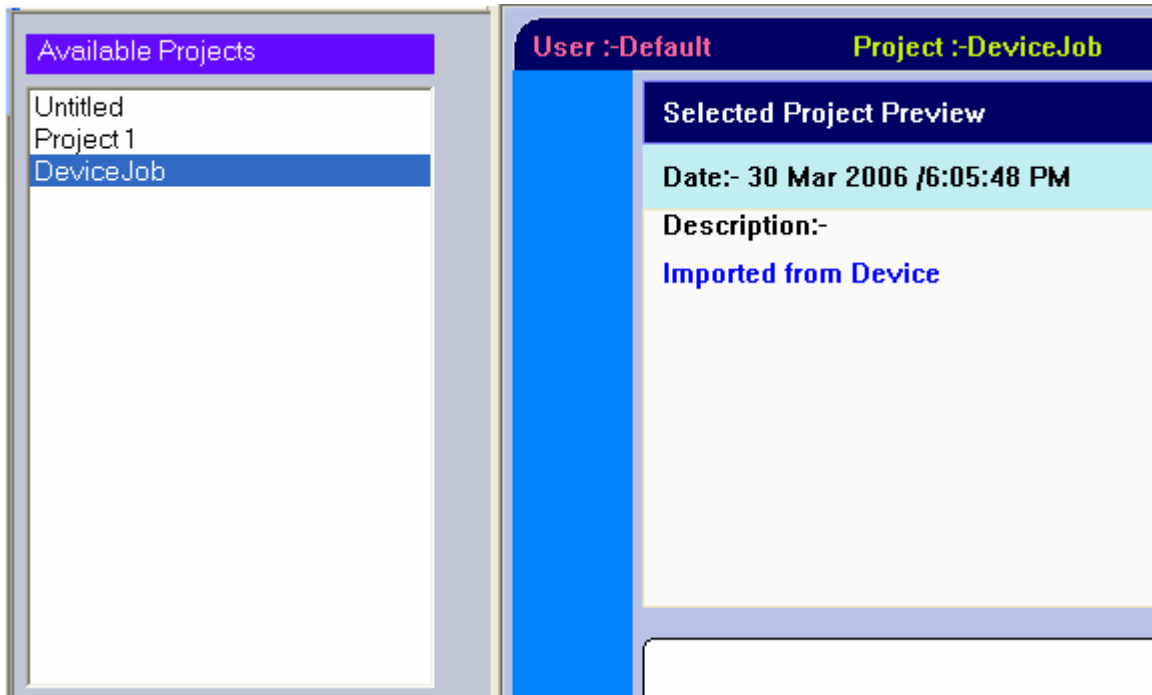

Figure 14 : DeviceJob
- When the synchronization (import) is completed, system creates a new project named '**DeviceJob**' and attaches the imported device data to that project. (Figure 14). If there is 'DeviceJob' already available in the project list, then the imported data is automatically copied to it.